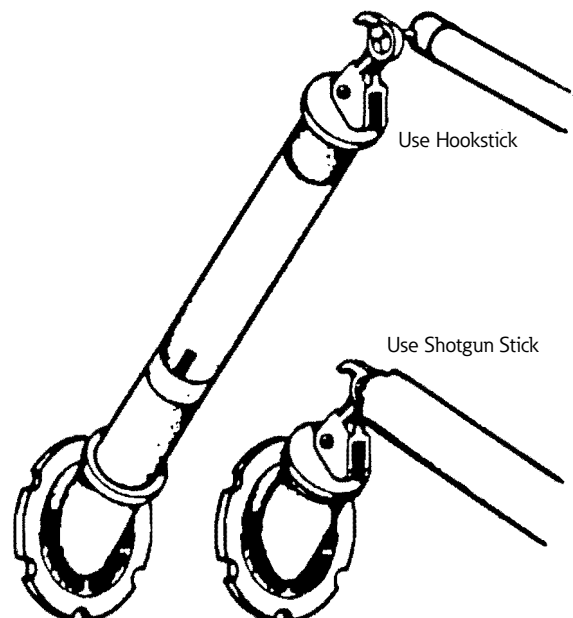

Figure 2. Pull the fuse upward and outward
3. With your head turned to one side, pull the fuse outward 6" to break the load (refer to Figure 2).